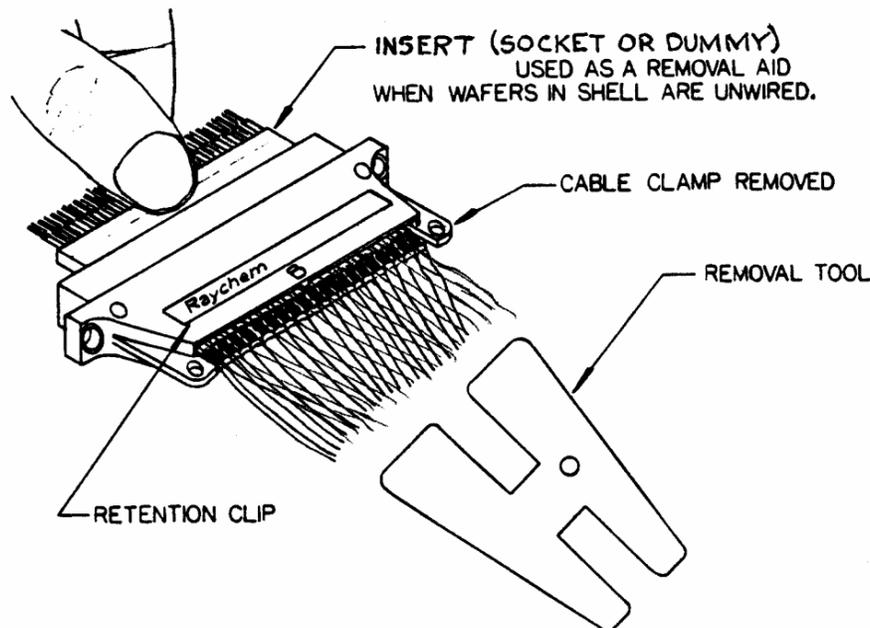

Figure 7. Use of Insert Removal Tool
2. Insert the D-659-0001 removal tool into the rear of the shell on either **A** or **B** side (Figure 7).
2. Use a socket insert or a dummy insert to push the insert out of the shell from the mating end (Figure 7).